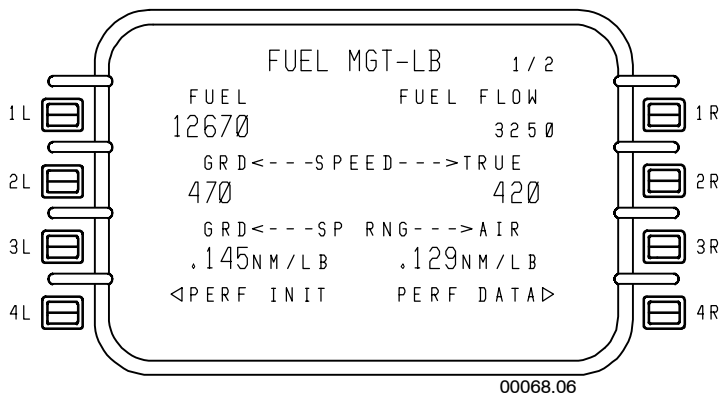

Figure 5-48
- **FUEL MGT 1/2** - Figure 5-48 shows the current fuel quantity, fuel flow, ground speed, true airspeed, ground specific range and air specific range.